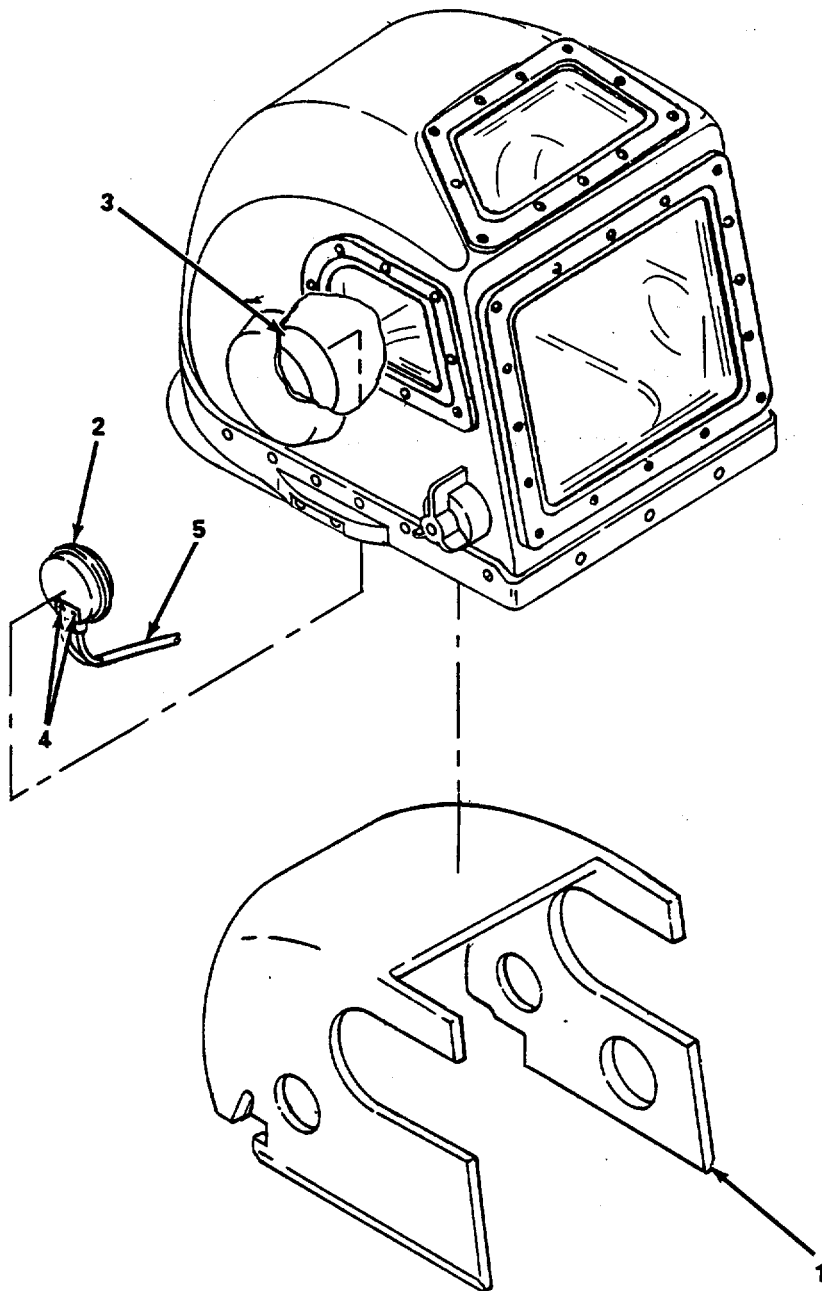

Figure 4-28. Speaker, Replace.
- (2) *Replace speaker.* (figure 4-28)